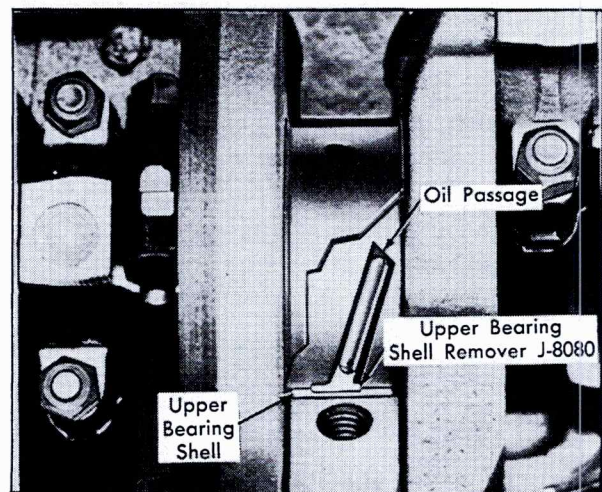

Fig. 6-137 Removing Upper Bearing Shell
6. Install Upper Bearing Shell Remover, J-8080, into oil hole in crankshaft bearing journal, Fig. 6-137.
8. Install new upper shell in place as far as possible by hand, with locating tang in correct position. Remover Tool, J-8080, may also be used to aid in installing new upper shell. Install tool in crankshaft oil passage so that tool bears against notched end of bearing shell. Rotate crankshaft counterclockwise to position bearing, then remove tool, Fig. 6-137.